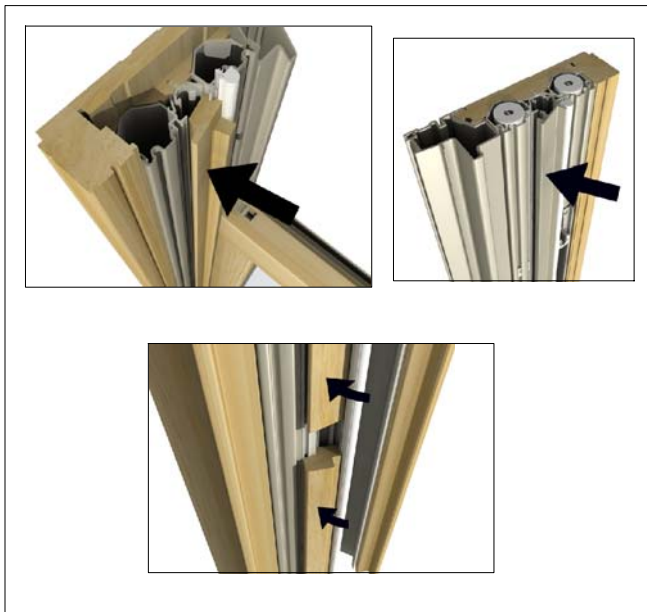

Figure 9
- Replace the interior jamb top and bottom fillers by first inserting the flange side of the filler into place and pushing on the filler to rotate and snap the filler into place. See figure 9.